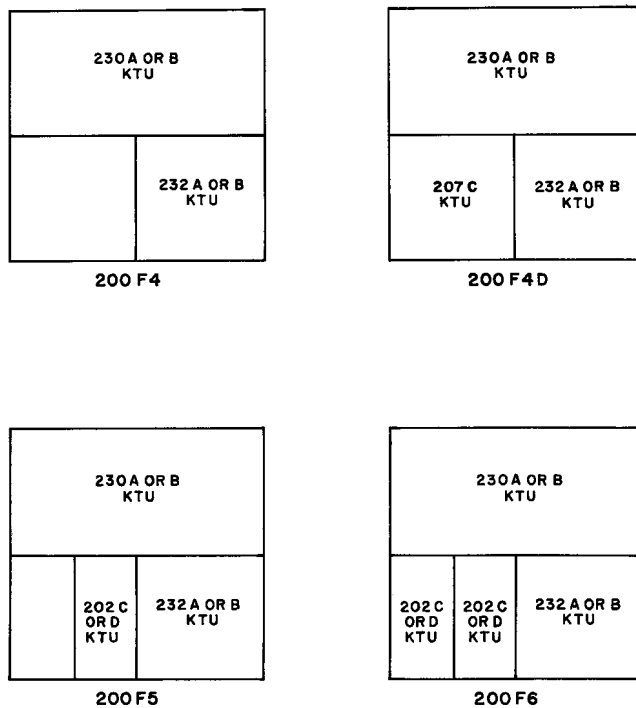

Fig. 2 — Block Diagram
2.05 Fig. 2 shows the arrangement, coding (without cable terminal), and key telephone units used in the 200F-type KTU.